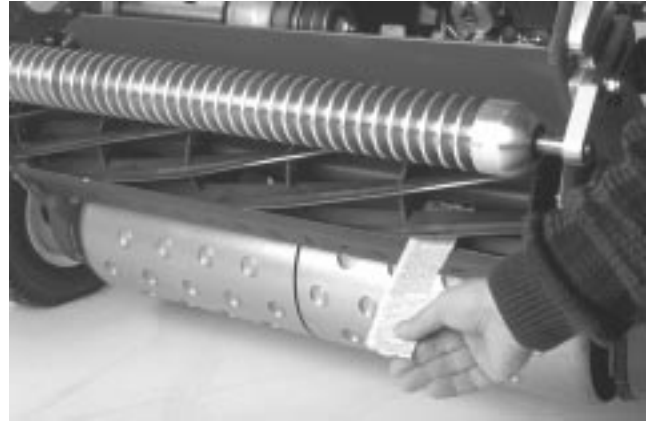

Figure 13
4. On one end of the front side of the reel, insert a long strip of newspaper between the reel and bedknife (Fig. 13). While slowly rotating the reel forward, turn the bedbar adjusting screw clockwise (on the same end of reel, one click at a time, until the paper is pinched lightly, when inserted from the front, parallel to the bedknife, which results in a slight drag when paper is pulled (Fig. 11 or 12).
6. After the adjustment is accomplished, check to see if the reel can pinch paper when inserted from the front and cut paper when inserted at a right angle to the bedknife (Fig. 13). It should be possible to cut paper with minimum contact between the bedknife and the reel blades. Should excessive reel drag be evident (more than 7 in.-lb. (0.79 N·m)), either backlap or grind the cutting unit to achieve the sharp edges needed for precision cutting; refer to the Toro reel sharpening manual.